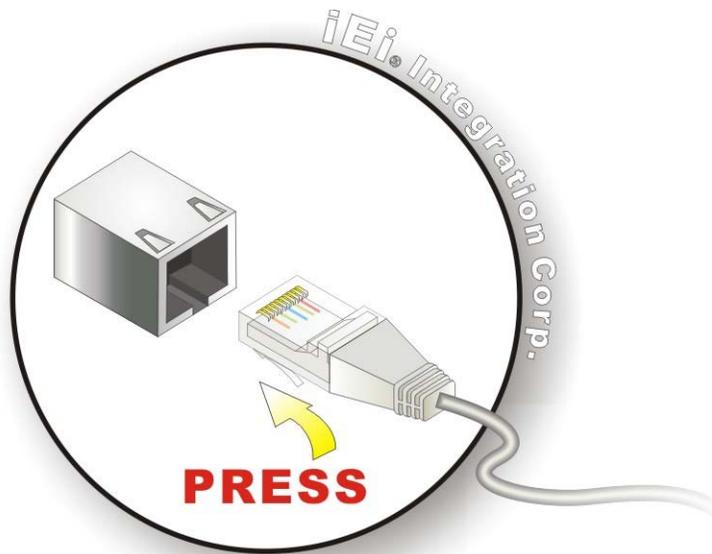

Figure 4-17: LAN Connection
Step 2: Align the connectors. Align the RJ-45 connector on the LAN cable with one of the RJ-45 connectors on the IMB-Q870-i2. See **Figure 4-17**.